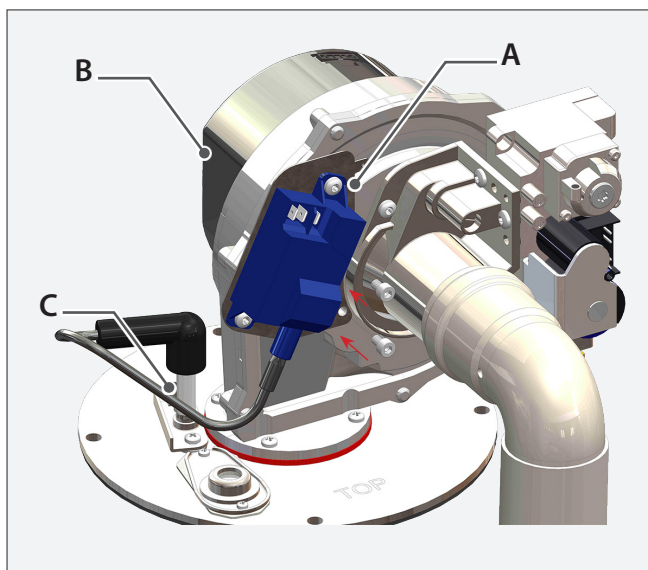

Fig. 9 - Spark Generator and Bracket (PT 250)
2. Locate the spark generator with bracket (A) on the blower (B). (See Fig. 9), and secure using 2 of the venturi-to-blower screws.
3. Connect the spark generator cable with connector (C) to the new igniter.